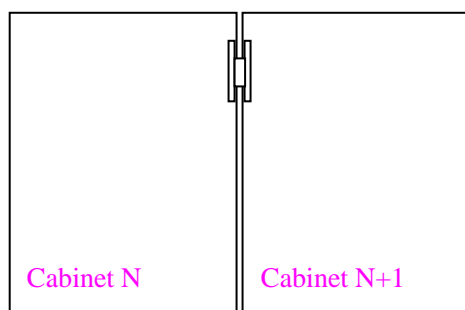

Fig4.2 Step1
Step1: installing waterproof rubber. Plug the waterproof rubber into the connection hole of cabinet as fig4.2 shows.